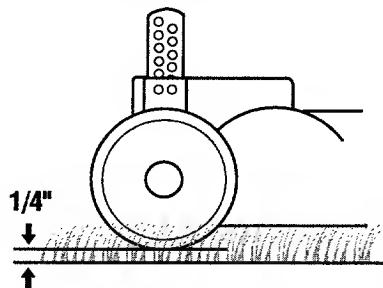

Fig. 5
- b. After cutting height is selected, lower attachment. Set rear gage wheel ground clearance to $1/4"$. See Fig. 5. Lift gage wheel up (about one hole more) to clear ground by $1/4"$.